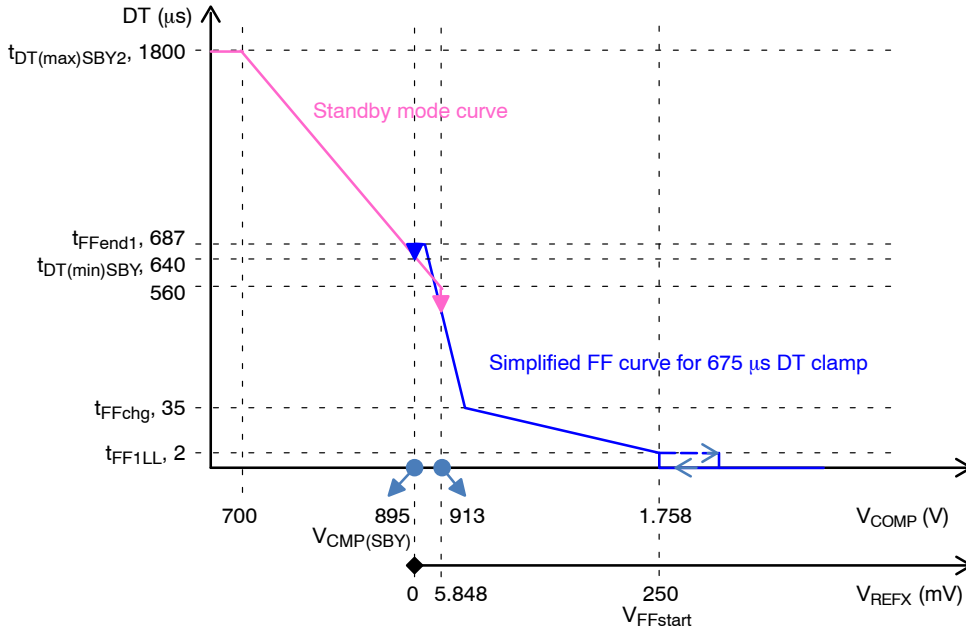

Figure 59. Dead-time Setpoint as a Function of  $V_{COMP}$
dead-time (DT) to keep the output voltage regulated (pink curve in Figure 59).